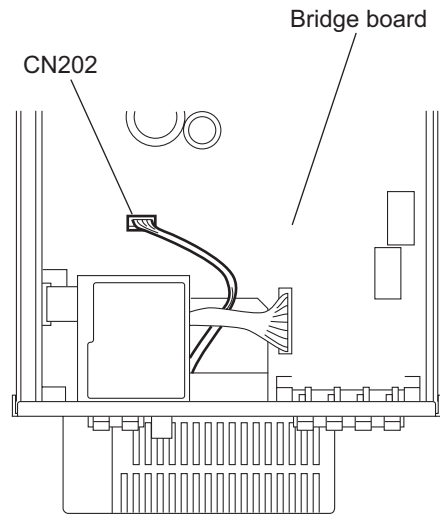

Fig.10
3.1.4 Removing the rear panel (See Figs.10 to 12)
- (1) From the top side of the main body, disconnect the wire from the connector CN202 on the bridge board. (See Fig.10.)
3.1.5 Removing the fan (See Figs.10 to 12)